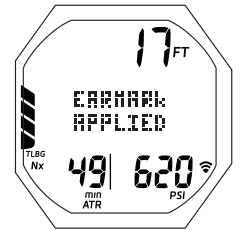

Fig. 78B - SAFETY STOP MAIN (shown for 3 seconds)
- M (< 2 sec) - to apply a snapshot Earmark to the PCI data recorded at that time. *The graphics EARMARK APPLIED will be displayed in place of Stop Depth/Time for 3 seconds (Fig. 78B).*
- M (< 2 sec) - to apply a snapshot Earmark to the PCI data recorded at that time. *The graphics EARMARK APPLIED will be displayed in place of the Stop Timer for 3 seconds (similar to Fig. 78B).*